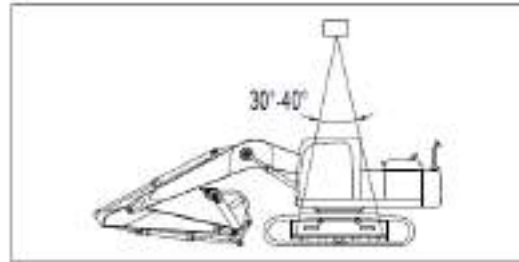

Figure 6-9 Hoisting posture of the machine
- e). Adjust the lifting angle of the wire rope to $30^{\circ} \sim 40^{\circ}$ and then slowly lift the machine (Figure 6-9).